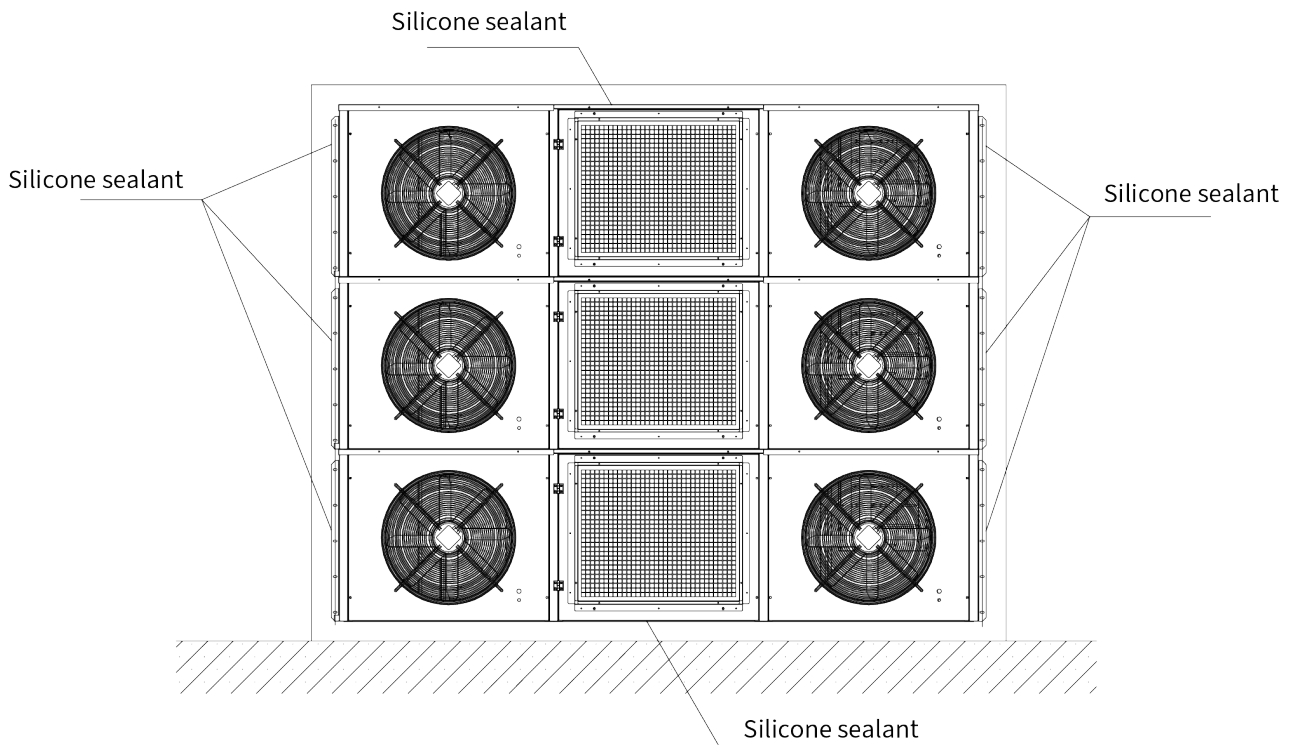

Figure 3-18 Seal the Joints Between P-CRAC and Wall
To prevent moisture from getting in and air leaking out, coat the joint between the rear panel of the unit and the wall with a layer of silicone sealant (installer provided, see Table 3-2, item 1) as shown in Figure 3-18.